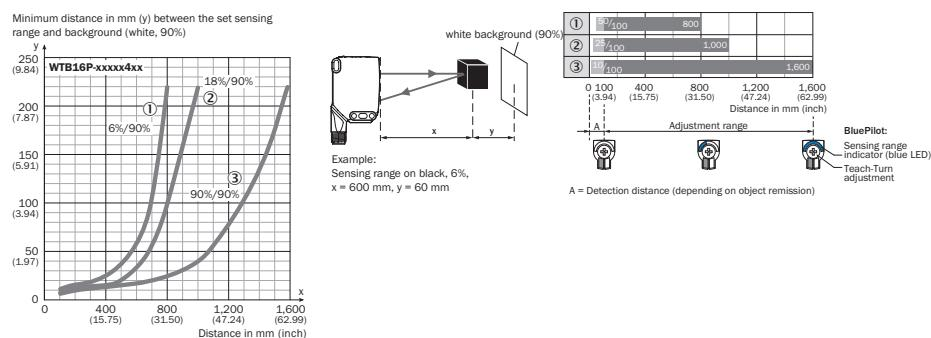

Figure 5: Characteristic line 3, WTB16 P-xxxxx4 xx, red light
Check the application conditions: Adjust the sensing range and distance to the object or background as well as the remission capability of the object according to the corresponding diagram [see figures 5 and 7] (x = sensing range, y = minimum distance between set sensing range and background [white, 90%]) Remission: 6% = black ①, 18% = gray ②, 90% = white ③ (referring to standard white as per DIN 5033). We recommend that the adjustment be performed with an object of low remission.